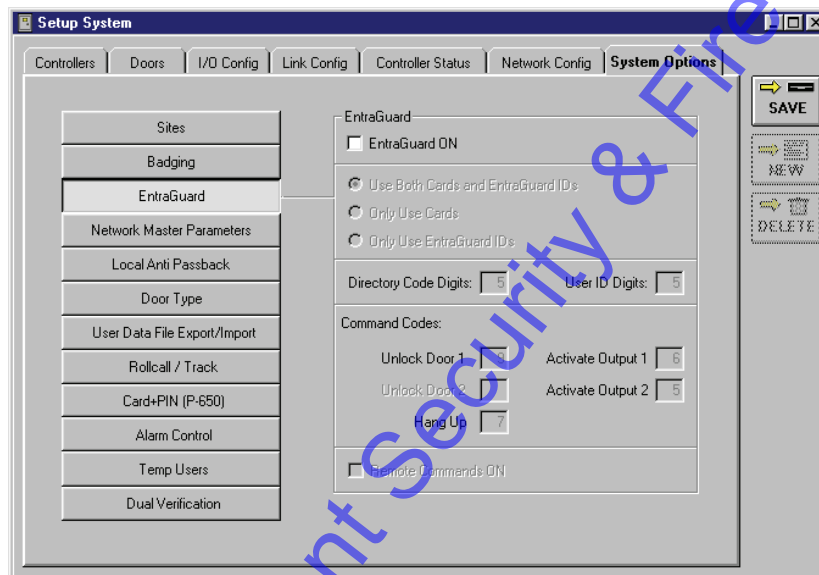

Figure 10-1: System Options Tab - EntraGuard Disabled
- Click on the  button. The System Options window will reveal the EntraGuard field where EntraGuard options may be set (see Figure 10-1).